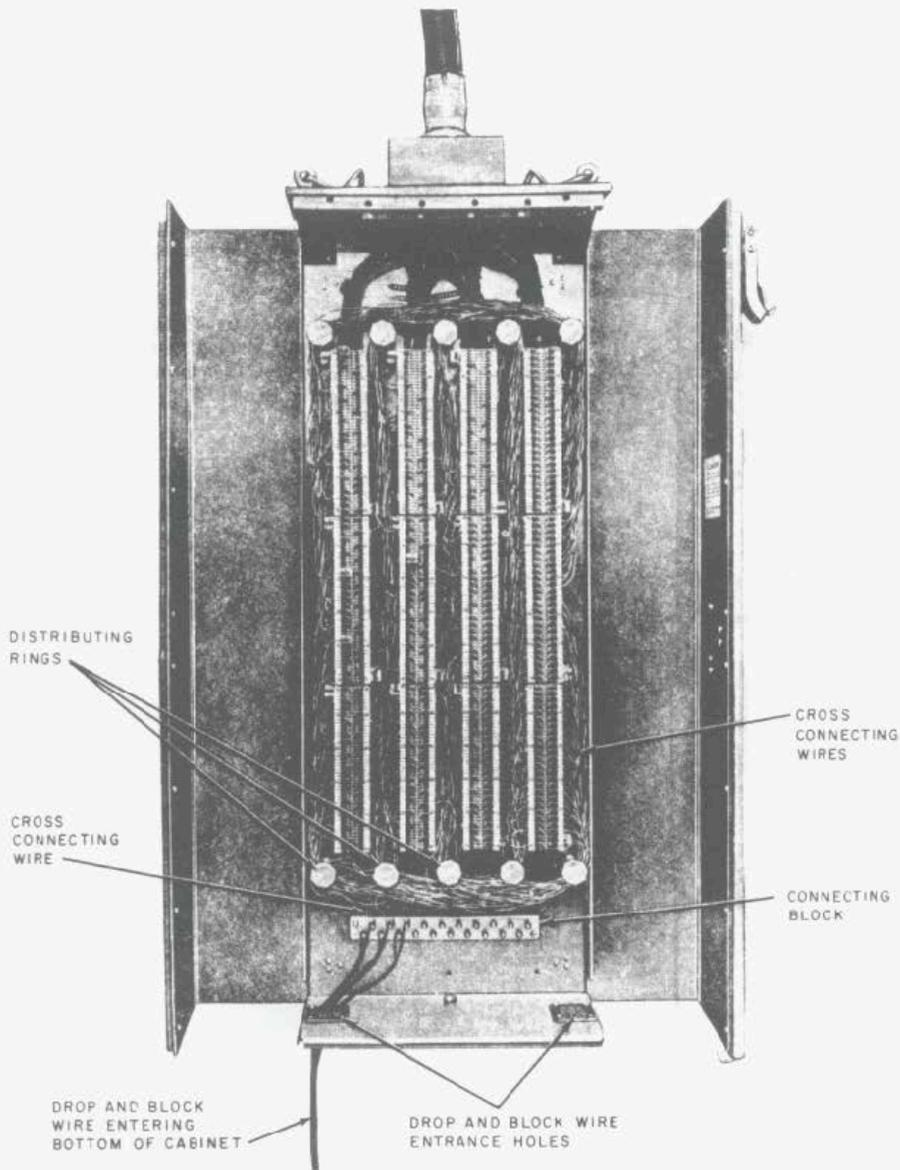

Fig. 15—Terminating Drop Wire—101-Type Cable Terminal
- (2) Where a drop wire is to be terminated on the right side of the terminal chamber, run the wire down the right side of the pole behind the terminal, through the two $\text{\textcircled{B}}$ drive ties below the terminal, and into the wire entrance holes on the bottom left of the terminal box. Where the drop wire is to be terminated on the left side of the terminal chamber, run the wire down the left side of the pole behind the terminal, through the two $\text{\textcircled{B}}$ drive ties below the terminal, and into the wire entrance holes on the bottom right of the terminal box.
- (3) Install cross-connecting wire between the feeder pair binding posts and a vacant drop wire binding post. Then terminate the drop wire as shown in Fig. 15 and 16.